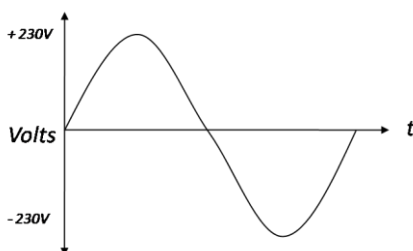

Fig. 2
- A pure sine wave inverter uses high frequency switching technology to produce a smooth continuously alternating output wave as shown in Fig 2.